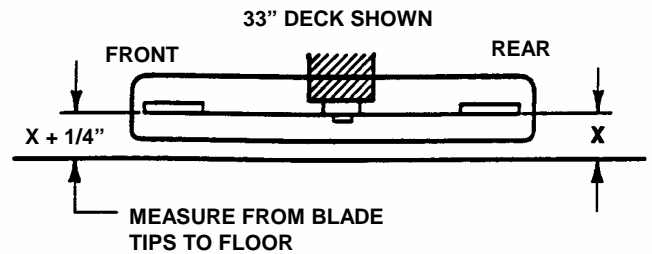

FIGURE 4.11
**NOTE:** The deck should be set so that the rear of the deck is 1/4" lower than the front. See Figure 4.11.